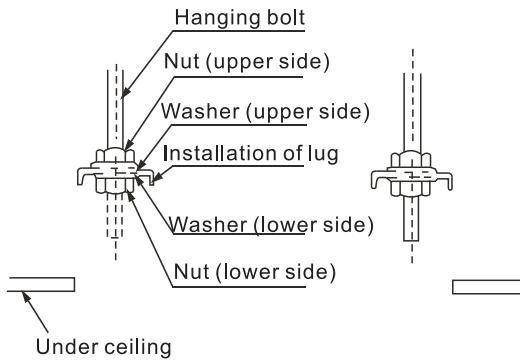

Figure 3.8
- 1) Adjust the location of the nut, and determine the space between the washer (lower side) and the ceiling according to the actual construction situation. Refer to Figure 3.8.